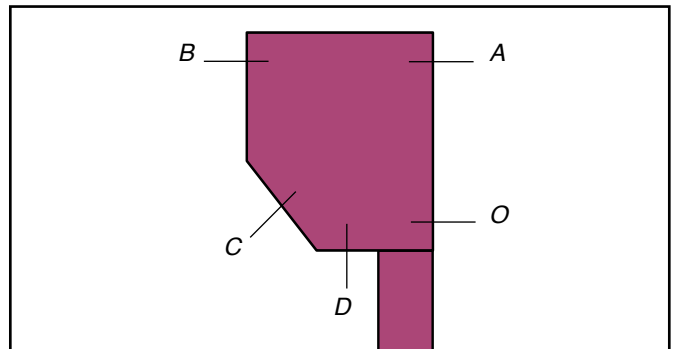

Fig. 6 : Choice operating exit tubular motor
- Possible operating exits: see figure 6 and table 2